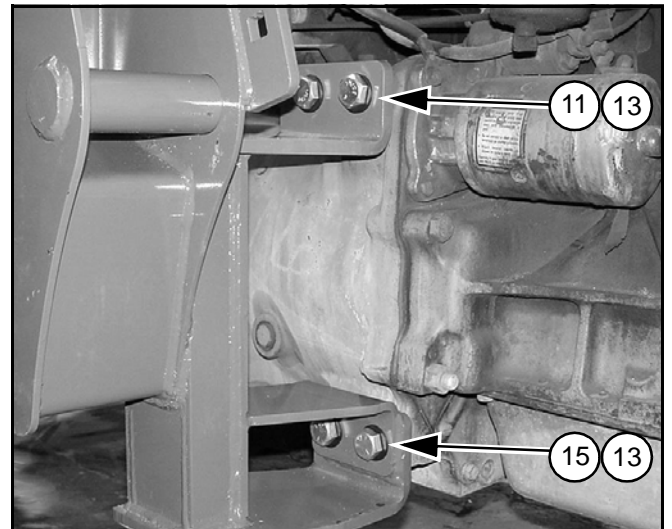

Figure 4 Right Mount Installed at Clutch Housing
1. Attach right and left mounts to tractor clutch housing, using cap screws (11, 15) and flat washers (13) as shown in Figure 4.